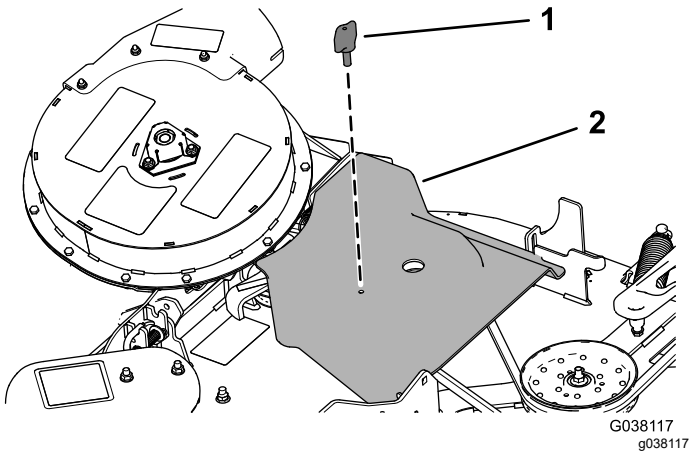

Figure 4
1. Remove the thumbscrew that secures the belt cover (Figure 4).
2. Move the cover outward until the edge of the cover clears the hooks in the deck flanges (Figure 4).